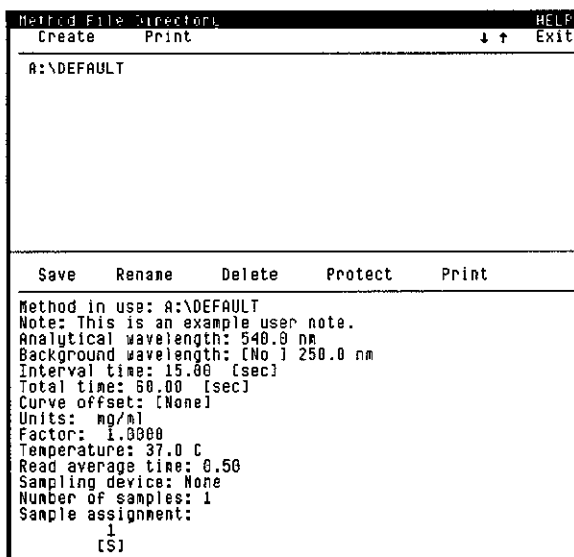

Figure 7-2. Method Window
1. Click on **<Method>** to display the Method window, Figure 7-2. The Method window is used to setup analysis parameters, recall stored methods and create new methods. General information on method windows is provided in section 3.8.